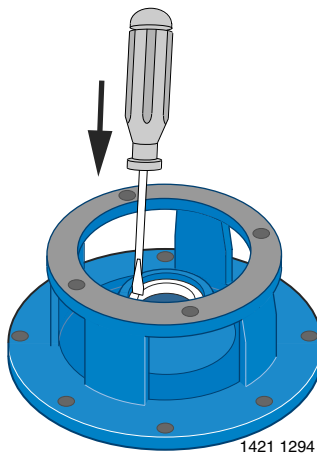

Figure 4
9. Place adapter/seal plate face down on bench and drive old stationary half of seal out of adapter/seal plate by carefully tapping with screwdriver and hammer (Figure 4).